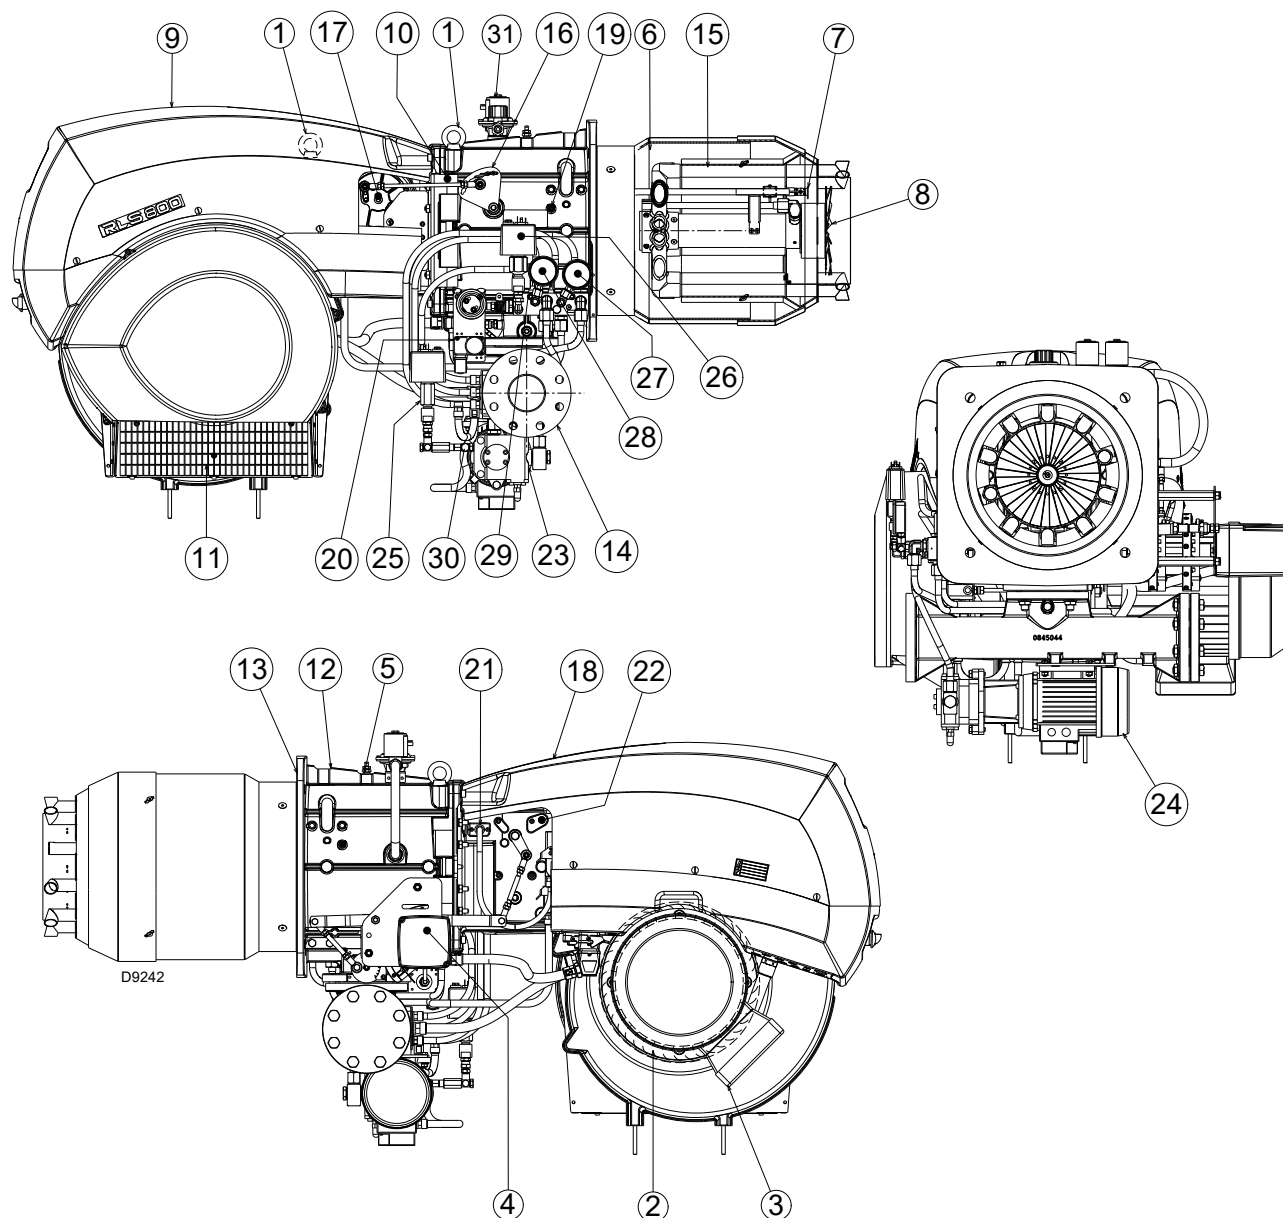

Fig. 4
(1) Reference conditions: Ambient temperature 20°C - Gas temperature 15°C - Barometric pressure 1013 mbar - Altitude 0 m a.s.l.
(2) Pressure at test point 5)(Fig. 4) with zero pressure in combustion chamber and at maximum burner output.
(3) Sound pressure measured in manufacturer's combustion laboratory, with burner operating on test boiler and at maximum output. The sound power is measured using the "Free Field" method, required by EN 15036 standard, and according to an "Accuracy: Category 3" measurement, as described in EN ISO 3746.